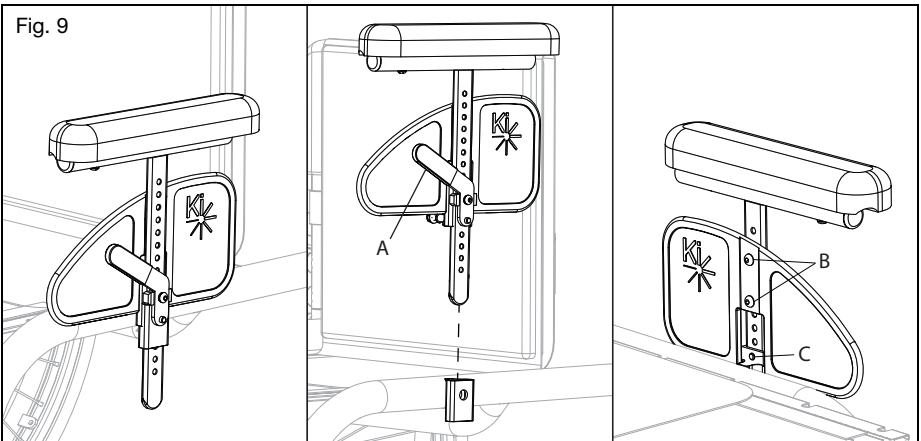

Fig. 9
- a. Slide the armrest into the receiver on the side frame. Ensure the pin in lever engages the receiver (Fig. 9).
- a. Push the lever (Fig. 9:A) in towards the side guard panel to release the pin from the receiver.
- b. Remove two 6mm screws from the side guards (Fig. 9:B).
- c. Remove M4 screw (Fig. 9:C) from the side guard post stop through the side guard post but do not remove entirely. The screw can stay in the lever assembly. Repeat on the other arm.
- d. Reset the post stop and the lever assembly on the side guard post to desired position. Retighten M4 screw (Fig. 9:C). Repeat on the other arm.
- e. Place the side guard in the desired position and replace two 6mm screws (Fig. 9:B) to secure the side guard in place. Tighten two 6mm screws. Repeat on the opposite arm.
- f. Replace the armrest assemblies into the receiver (Fig. 9).